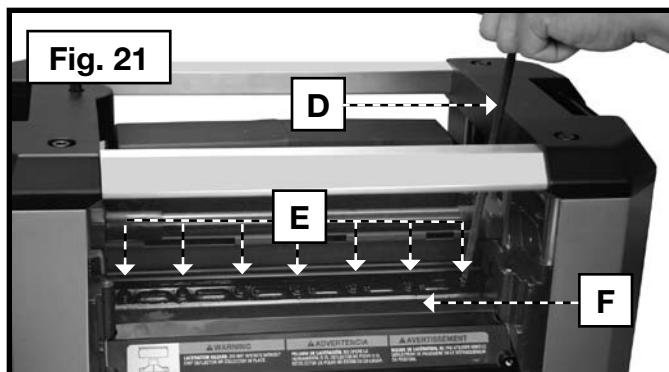

Fig. 21
4. Remove the seven screws (E) Fig. 21 and use magnetic end of the wrench to remove the hold-down bar (F).